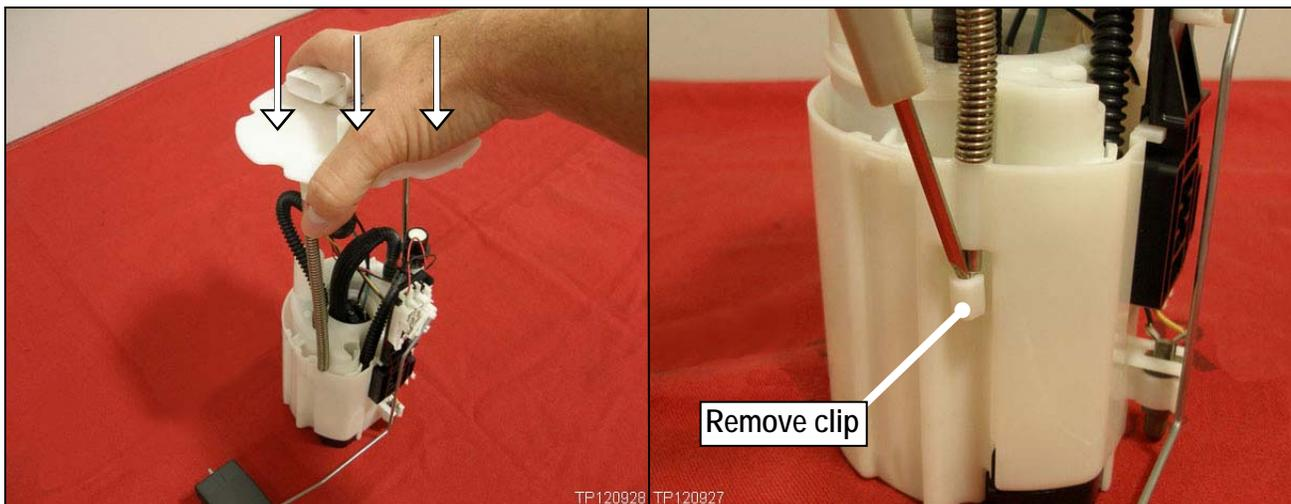

Figure 2
- b. Push down on the top of the fuel pump module, and then remove the clip from the spring loaded rod with a suitable tool (see Figure 2).